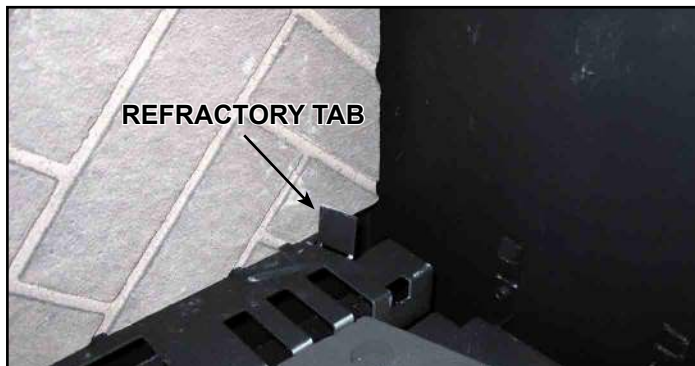

Figure 10.5 Place Right Side Refractory
2. Place right side panel by inserting the front (tall edge) into the front firebox corner and then press the narrow end up to the refractory tab. See Figure 10.5.